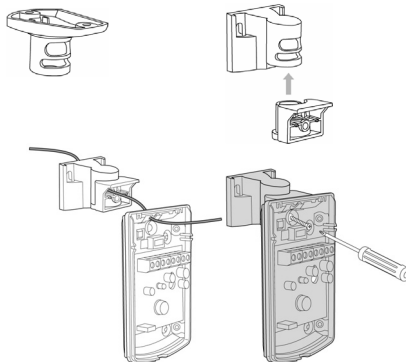

Fig.7
The detector can either be wall or corner mounted. If ceiling or special wall mounting is required, use the optional bracket base. Refer to bracket description. (See fig. 7).
4. The circular and rectangular indentations at the bottom base are the knockout holes for wire entry. You may also use mounting holes that are not in use for running the wiring into the detector. (For option with bracket - lead wire through the bracket – fig.7)
5. Mount the detector base to the wall, corner or ceiling. (For option with bracket see fig.7).